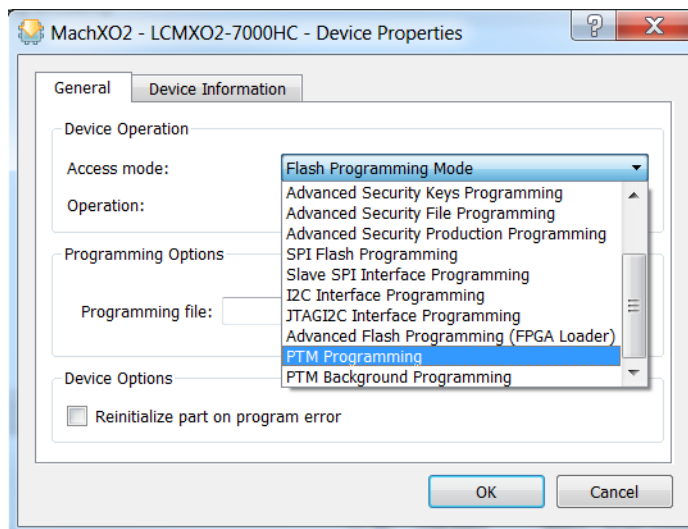

Figure 6.14. ASC Socket – Device Properties
3. The **Device Properties** dialog box appears as shown in Figure 6.14. In the **Access Mode** dropdown list, select **PTM Programming**. Note that in the main interface, **PTM Bypass** is indicated under **Operation**.